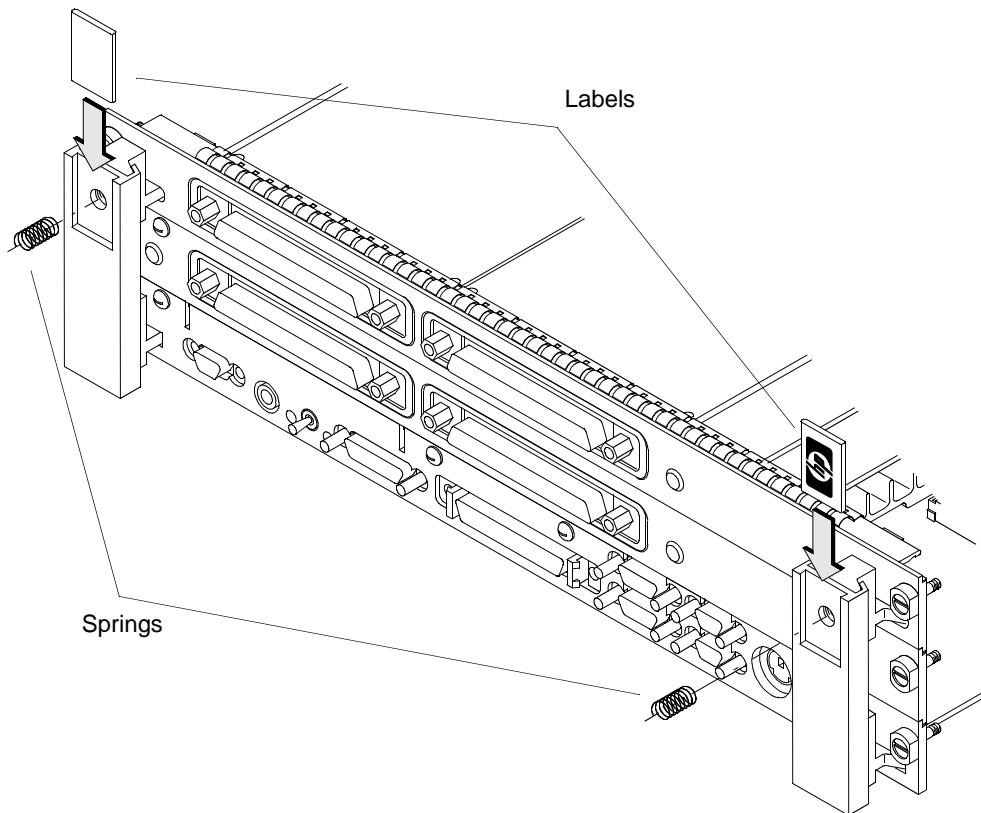

Figure 4-11 **Installing the Springs and Labels**
- c Thread the springs included in the kit into the ejector handles on the PMC expansion board, and with the springs compressed, slide the labels from the board computer into the sleeves, as shown in Figure 4-11.